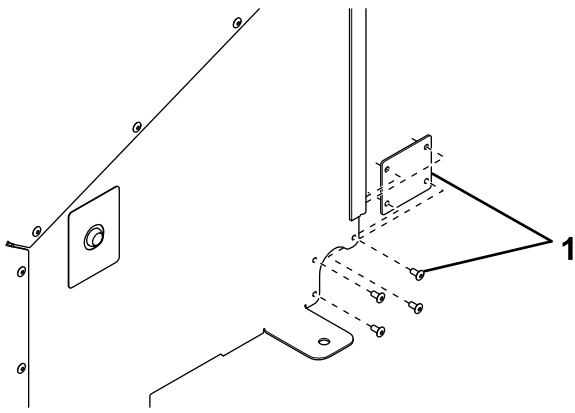

Figure 3
9. Remove and discard the grommet cover plate on the right side of the rear cover (Figure 3).